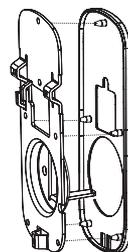

Figure 3A
- B. Ensure that gasket on both Outside Escutcheon and Inside Mounting Plate (Figure 3A) is properly fitted. Use either Rubber gaskets for doors 38-50mm thick or Plastic gaskets for doors 32-38mm thick.
As you position the outside escutcheon, route the cable through 54mm diameter hole (Figure 3A).